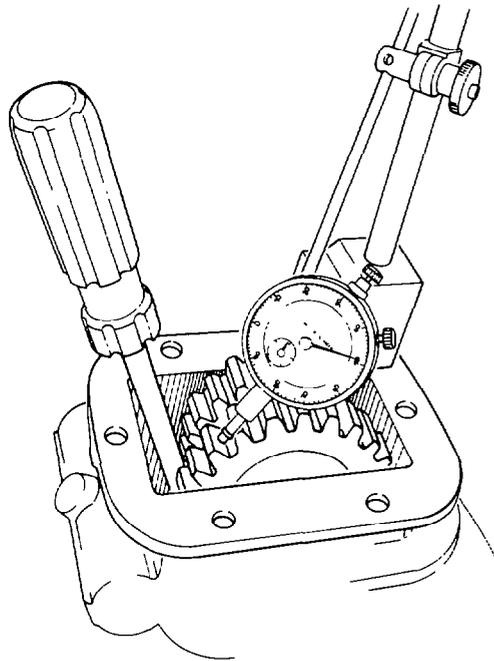

Fig. 396 — Checking Adapter to PTO Backlash
- j. Install the dial indicator on to the adapter, jam the PTO driven gear with a screwdriver as shown in fig. 396, then check the adapter gear for backlash.